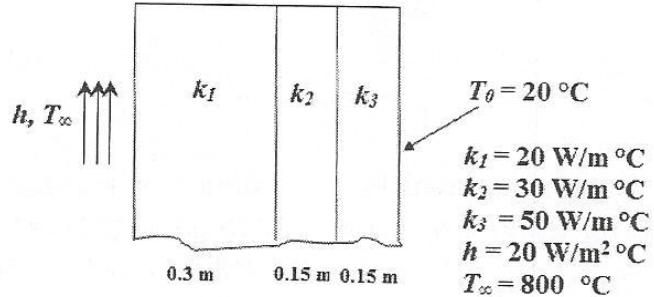

Figure 8b
- B A composite wall consists of three materials is shown in Figure 8b. The outer temperature is $T_0=20^{\circ}\text{C}$. Convection heat transfer takes place on the inner surface of the wall with $T_\infty=800^{\circ}\text{C}$ and $h=25 \text{ W/(m}^2\text{ }^{\circ}\text{C)}$.Determine the temperature distribution in the wall. 10